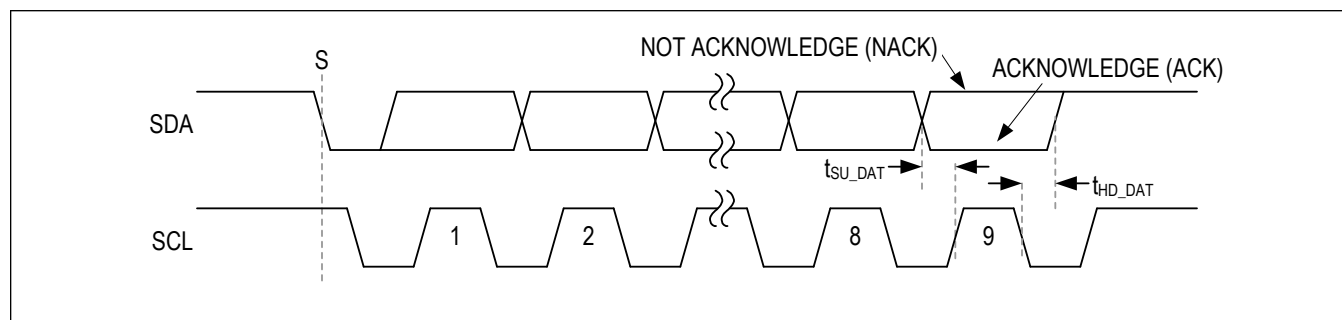

Figure 21. Acknowledge Bit
Both the I²C bus master and slave devices generate acknowledge bits when receiving data. The acknowledge bit is the last bit of each 9-bit data packet. To generate an acknowledge (A), the receiving device must pull SDA low before the rising edge of the acknowledge-related clock pulse (ninth pulse) and keep it low during the high period of the clock pulse. See Figure 21. To generate a not-acknowledge (nA), the receiving device allows SDA to be pulled high before the rising edge of the acknowledge-related clock pulse and leaves it high during the high period of the clock pulse.